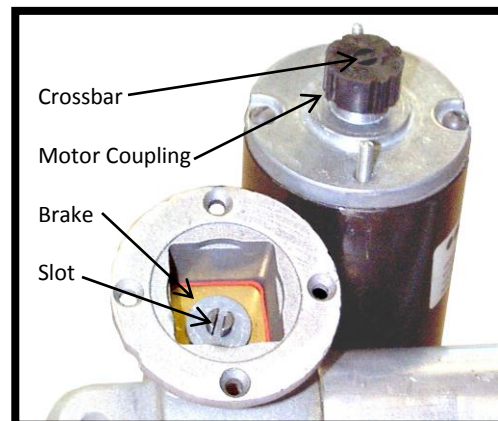

Figure 40: Motor & Gearbox Alignment
1. Align the crossbar on the motor coupling with the slot in the gearbox brake (Figure 40), and mount the new motor to the gearbox. Secure it with the two nuts/lockwashers. **Note:** Mount the new motor so that, when it is installed in the gurney, the wires will point directly downward. This facilitates connecting the motor wires to the wires in the scissor leg.